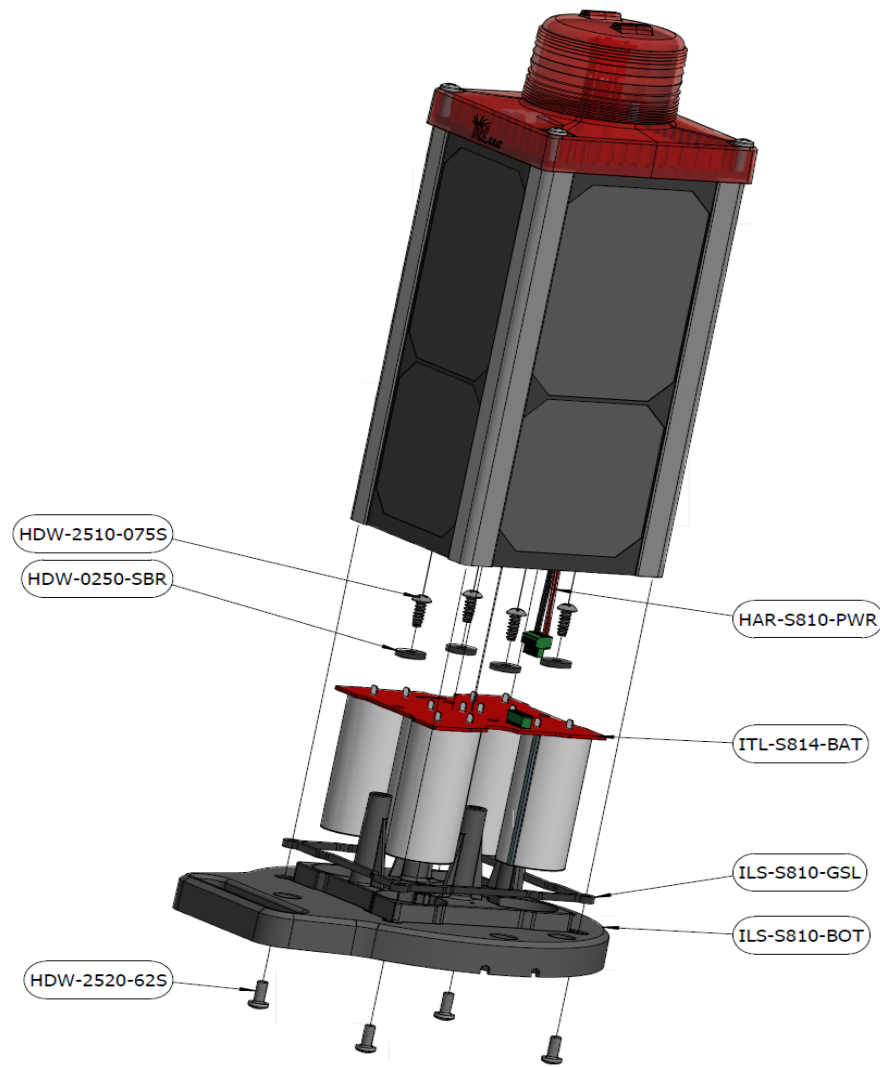

Figure 6: Battery Assembly
10. Slide the battery and base back into the fixture and replace the base screws (see figure 6 for more details).